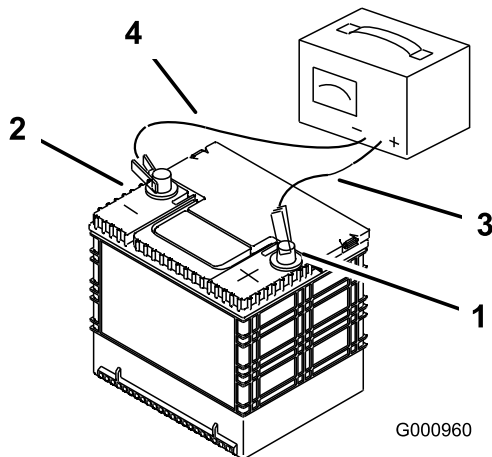

Figure 54
3. When the battery is fully charged, unplug the charger from the electrical outlet, then disconnect the charger leads from the battery posts (Figure 54).